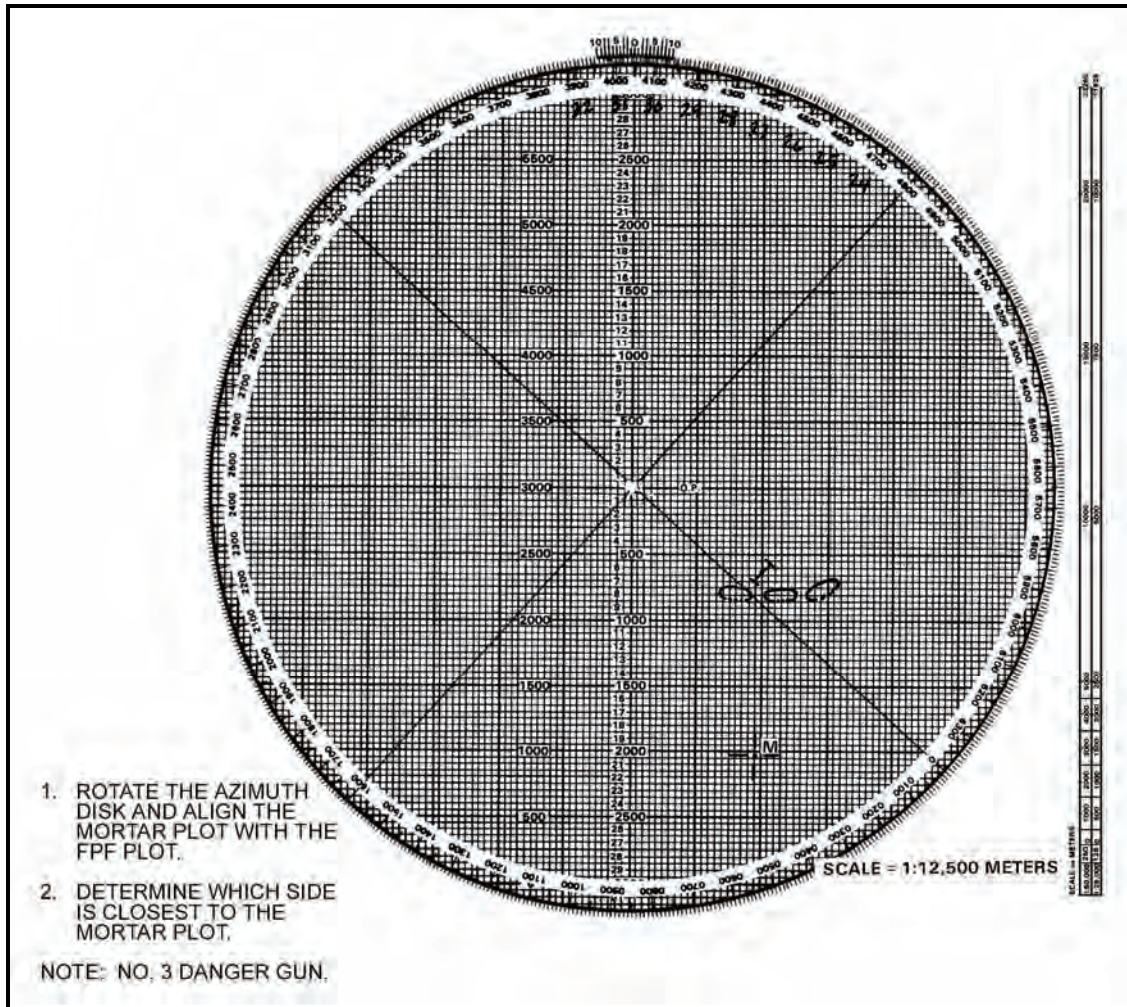

Figure 14-17. Determination of danger mortar.
- (2) After drawing the FPF line, the computer rotates the azimuth disk and aligns the mortar plot with the FPF plot to see which side of the line is closest to the friendly troops (Figure 14-17).
- (3) After the danger mortar is adjusted to the FPF line, the computer then indexes the FPF attitude and erases all but the last plot.